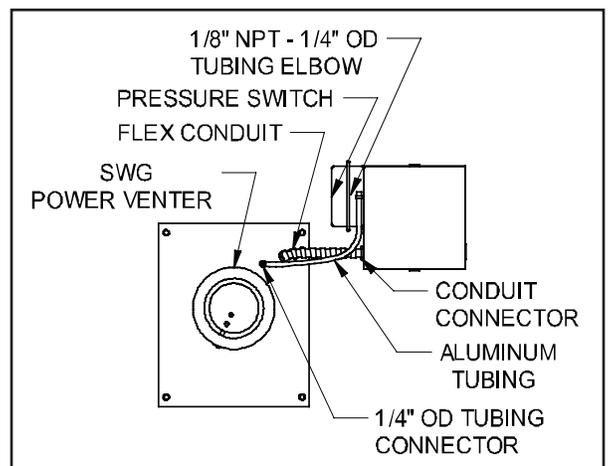

Figure 3
2. Fasten the flexible conduit from the SWG Venter into the conduit connector. Mount the CK-66 & 67 Junction box or installer supplied junction box onto the wall or floor joist without straining the flexible conduit. Fasten the CK-66 or 67 Junction Box through the four dimpled locations on the base of the box. (See Figure 3)
1. Attach the 1/4" tubing connector to the pressure tube on the SWG Venter. (See Figure 3)